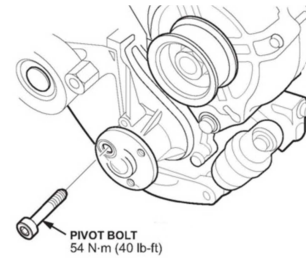

Figure 3
5. Remove tensioner pivot bolt and discard (Figure 3). Remove upper strut bolt (it will be reused). Remove tensioner and discard.